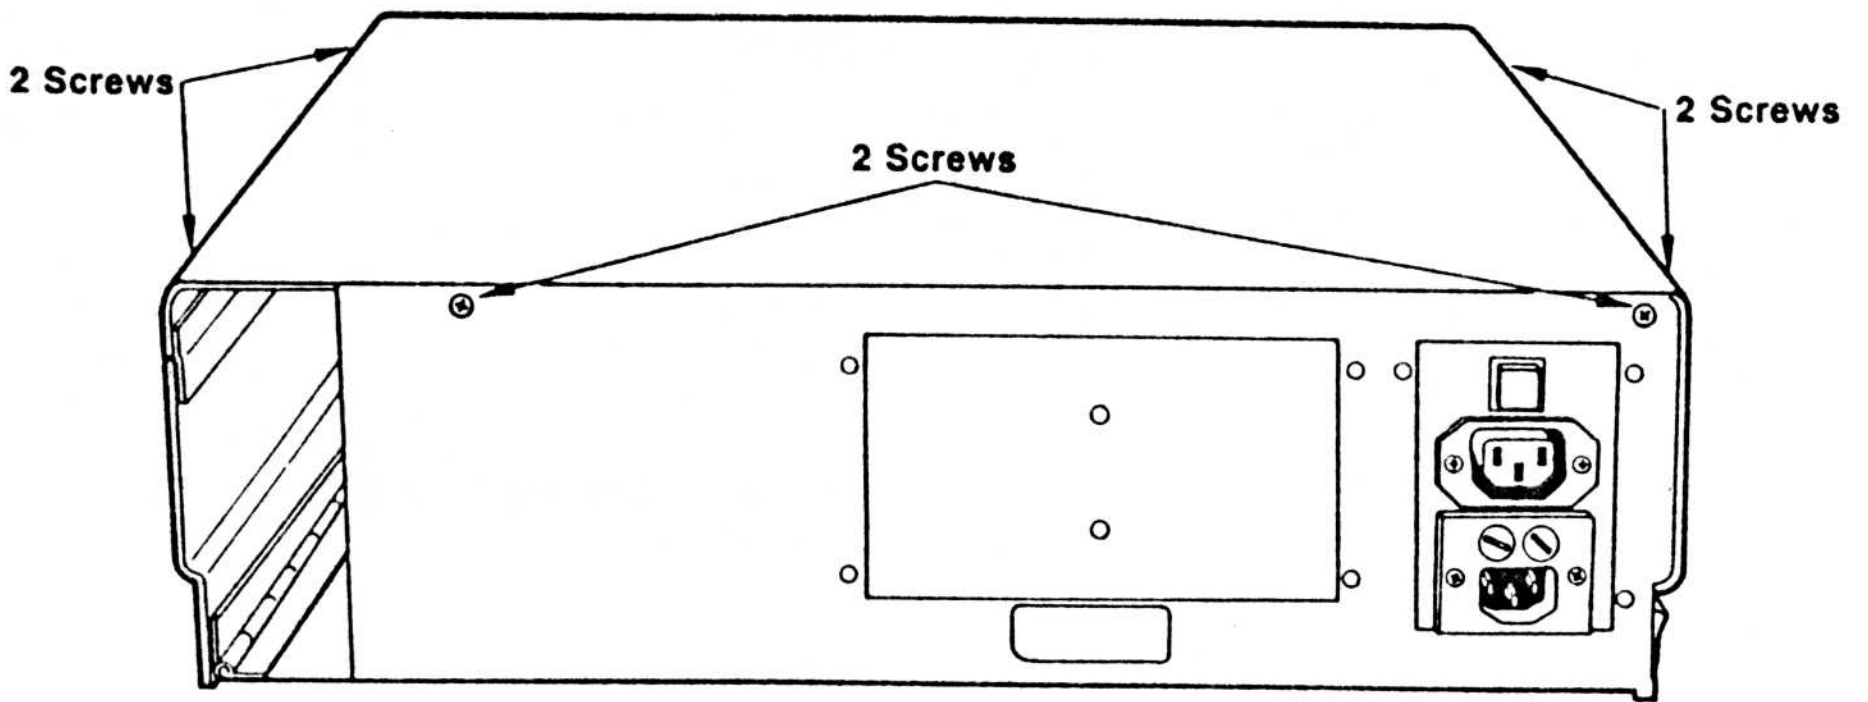

FIGURE 16: PC TURBO ENCLOSURE
- STEP 2** Unscrew six short screws; two in the top of the back panel of the main unit, two in the left side of the main unit and two in the right side of the main unit. See Figure 16. Set the screws aside in a safe place.